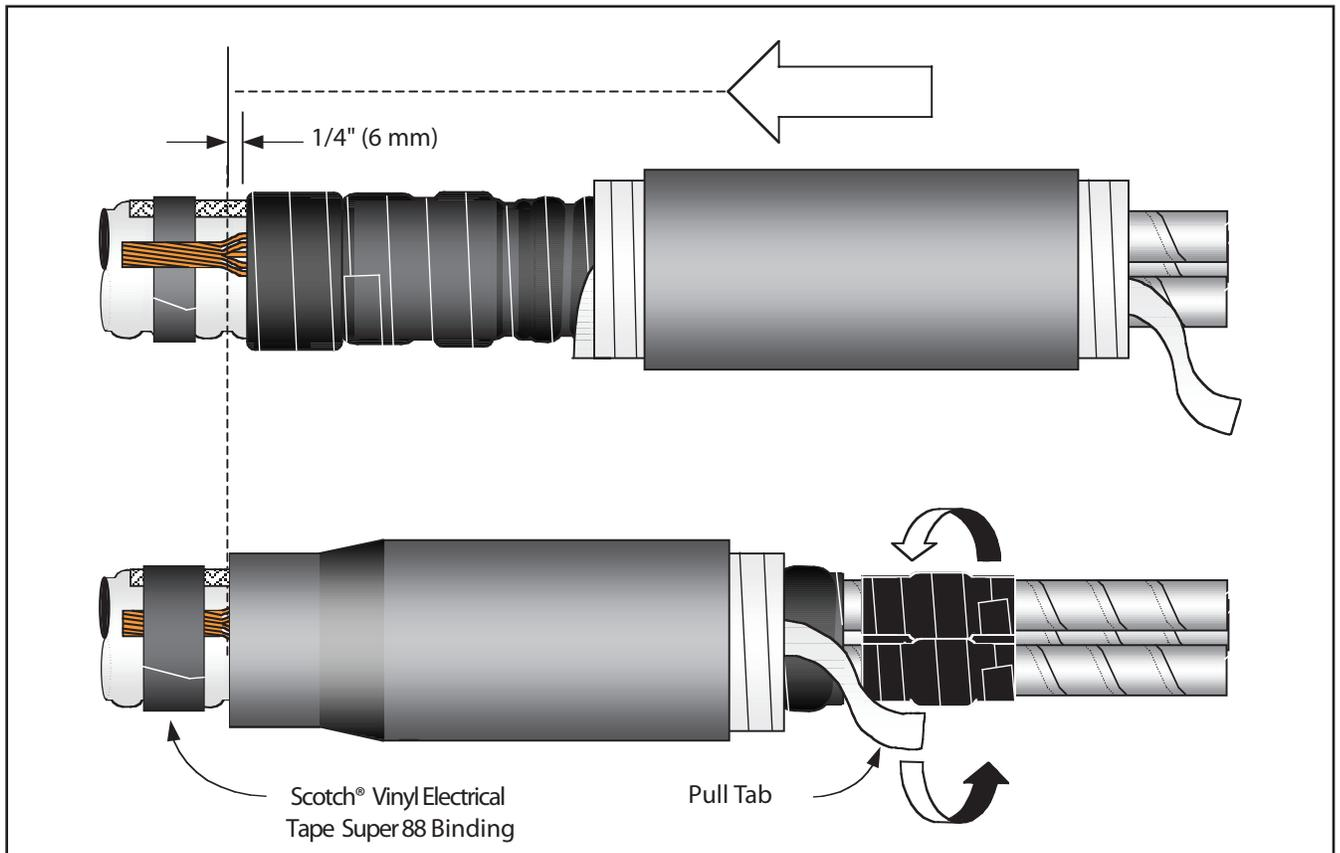

Figure 12
- 2.16 Install cold shrink jacket extension assembly. Align the jacket seal tube (not the plastic support core) to overlap ground wire seal area by approximately 1/4" (6 mm). To install, pull loose core end, while unwinding counter-clockwise around the cable. (*Figure 12*).
- 2.17 Bind cable ground wire and ground braid tail to cable jacket using Scotch® Vinyl Electrical Tape Super 88 (wide vinyl tape) (*Figure 12*). Apply at least eight tape layers and wrap only to width of tape roll.